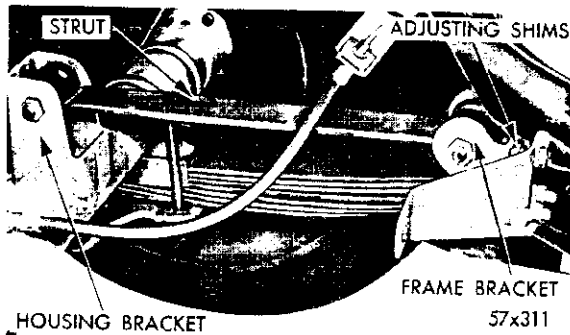

Fig. 10—Rear Axle Control Strut (Typical)
(3) Remove the shims from both rear axle control strut frame brackets (Fig. 10).